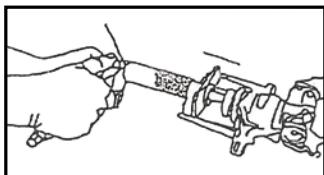

FIG 2
Press the release bottom(2), then roll and move the lever (4) to push the magnet adapter(1) onto the fillister of the brake-hat. See FIG 2